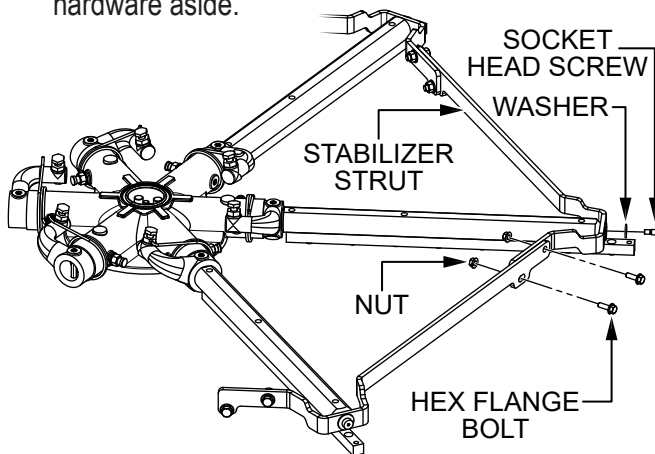

Figure 50. Stabilizer Ring Removal
1. Remove the hardware securing the **stabilizer struts** to the trowel arms (Figure 50). Set the struts and hardware aside.